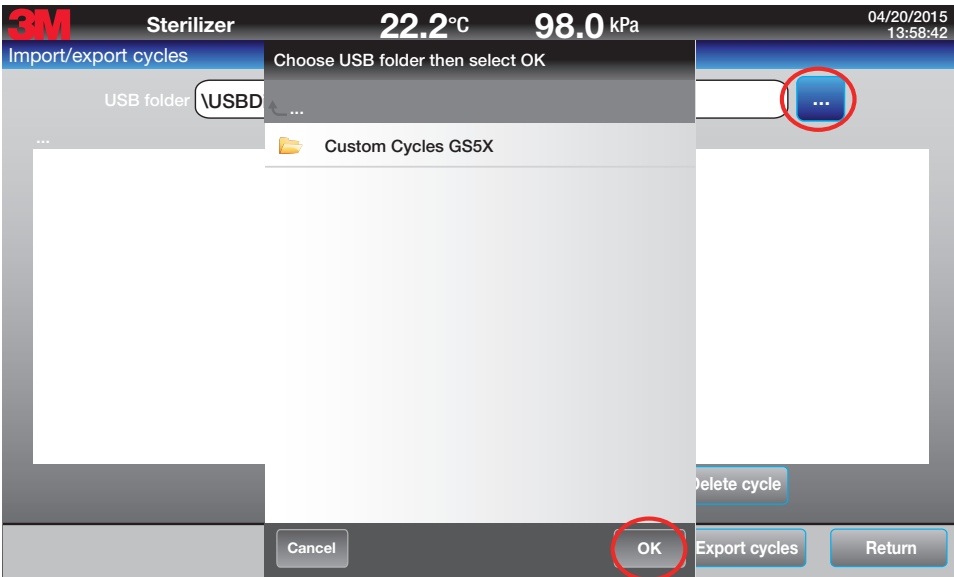

Figure 53.
- 3. Before a USB drive is detected, all functionality buttons on this screen will be disabled (gray) (Figure 53). Once the USB drive is detected, the functionality buttons will turn blue.
- 4. Press the blue **Browse** button to search for valid Folders on the USB drive. Choose the desired USB folder by pressing the folder name, then **OK** (Figure 53).